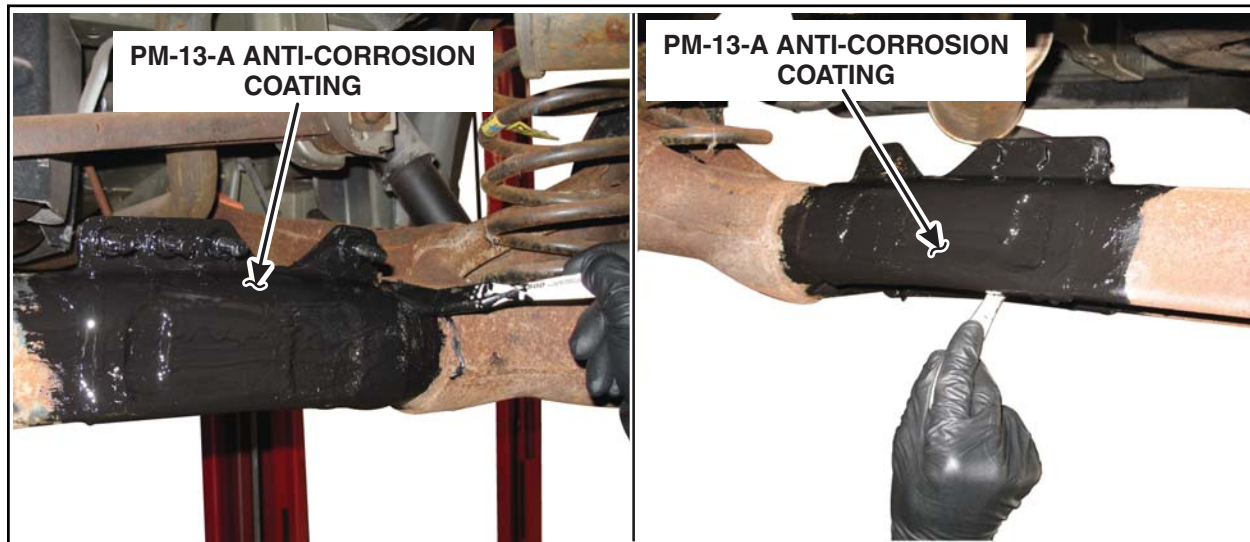

FIGURE 10
15. The adhesive will start displaying a greenish color (partially cured) after approximately 45 minutes at 21° C (70° F) or 1 hour and 30 minutes at 15° C (60° F). After this occurs, apply PM-13-A Anti-Corrosion Coating to all bare metal and adhesive. See Figure 10.